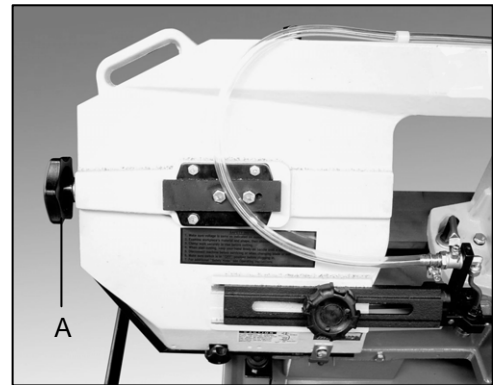

Fig. 10
3. Turn blade tension knob (A, Fig. 10) one and three quarters to two revolutions, clockwise. This equals approximately 800kgs of blade tension.